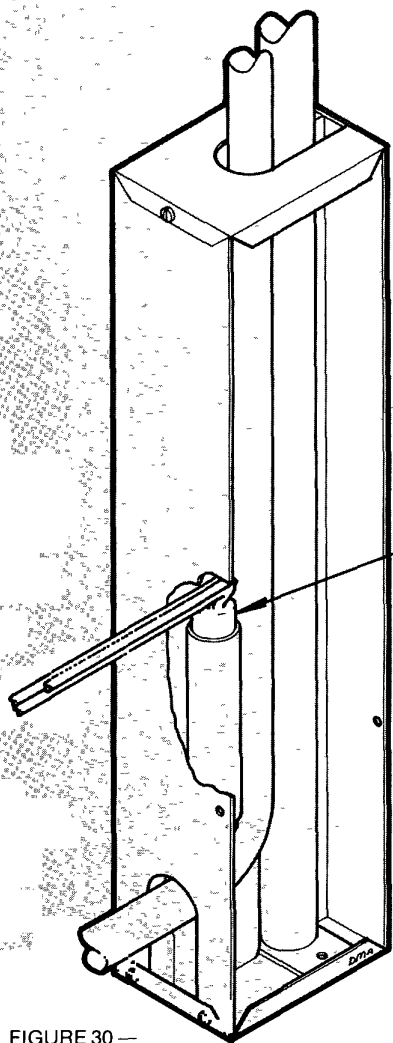

FIGURE 30 —
On the gas/electric operated refrigerators, heat is supplied by an electric element (A) mounted on the cooling unit inside the insulated cover (B)—removed for illustration purposes. See Fig. 30, 31, and 32.